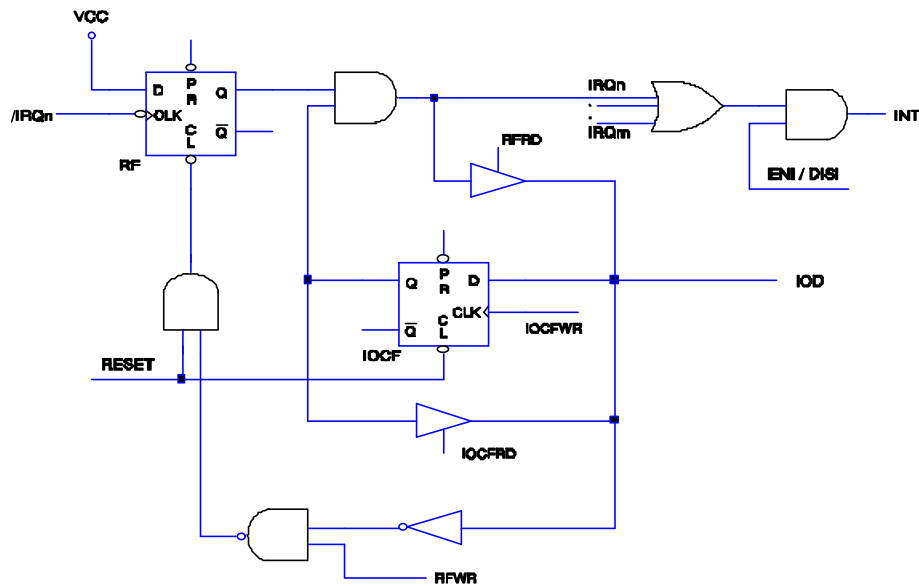

Fig. 11 Interrupt Input Circuit
The flag (except ICIF bit) in the Interrupt Status Register (RF) is set regardless of the status of its mask bit or the execution of ENI. Note that the outcome of RF will be the logic AND of RF and IOCF0 (refer to Fig. 11). The RETI instruction ends the interrupt routine and enables the global interrupt (the execution of ENI).